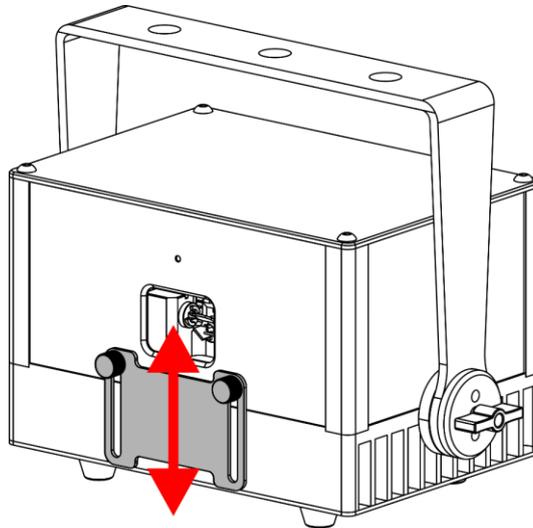

Fig. 13
- 01) Turn the 2 **masking plate adjustment screws (05)** counterclockwise to release them.
- 02) Slide the **aperture masking plate (04)** up or down to adjust its position (see Fig. 13).
- 03) Turn the 2 **masking plate adjustment screws (05)** clockwise to tighten them. Make sure that you do not overtighten them.